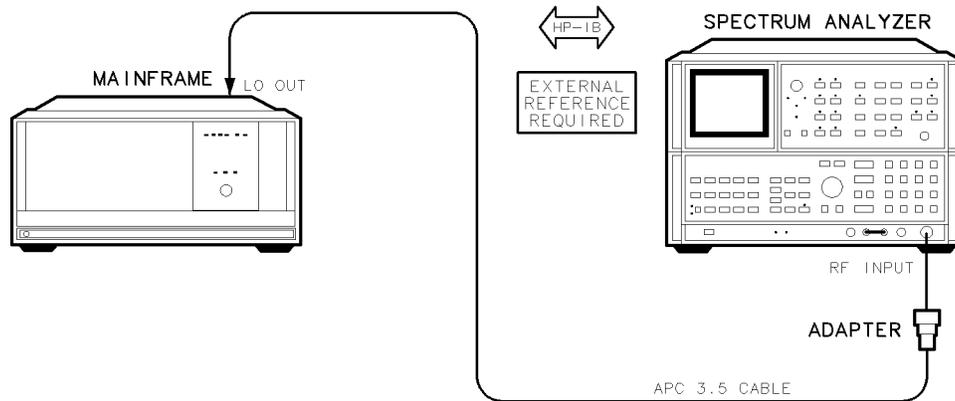

Figure 7-4. Residual FM (Span >10 MHz) Test Setup
1. Connect the HP 8566B spectrum analyzer’s RF INPUT to the DUT’s rear panel LO OUT jack using the adapter, as shown in Figure 7-4.